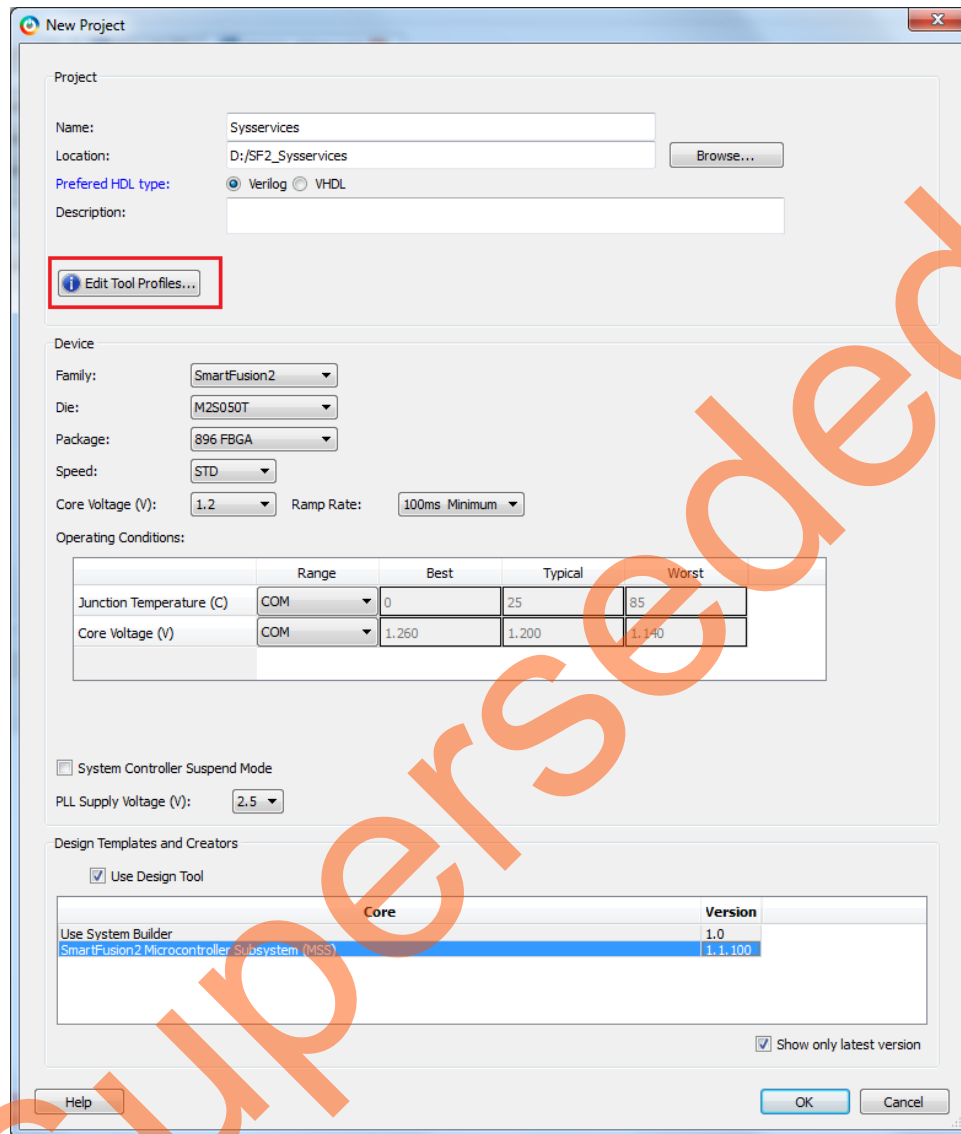

Figure 4 • Libero New Project Dialog Box
3. Enter the required information for the project and the device in the **New Project** dialog box, as shown in Figure 4 on page 7:
4. Select **Use Design Tool** and **SmartFusion2 Microcontroller Subsystem (MSS)** in the **Design Templates and Creators** section of the **New Project** window as shown in Figure 4.